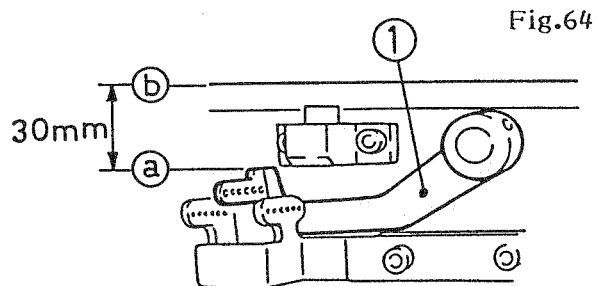

Fig.64
When looper thread take-up is at the top of its stroke, adjust looper thread take-up ① so that there is a distance of 30mm between top surface ① of looper thread take-up ① and top surface ② of the base plate. (Fig.64)